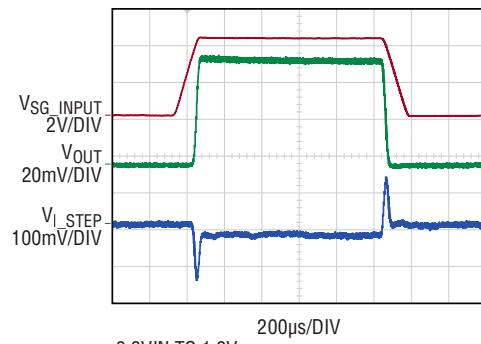

Figure 3. DC2874A-A 4-Phase Load Transient Response
7. Measure the  $I_{STEP}$  voltage to observe the current,  $V_{I\_STEP}/10m\Omega$ . Adjust the amplitude of the pulse to provide the desired transient. Adjust the rising and falling edge of the pulse to provide the desired ramp rate. Figure 3 shows a load step from 8A (RL = 150mΩ) to 36A. Refer to the following equations: